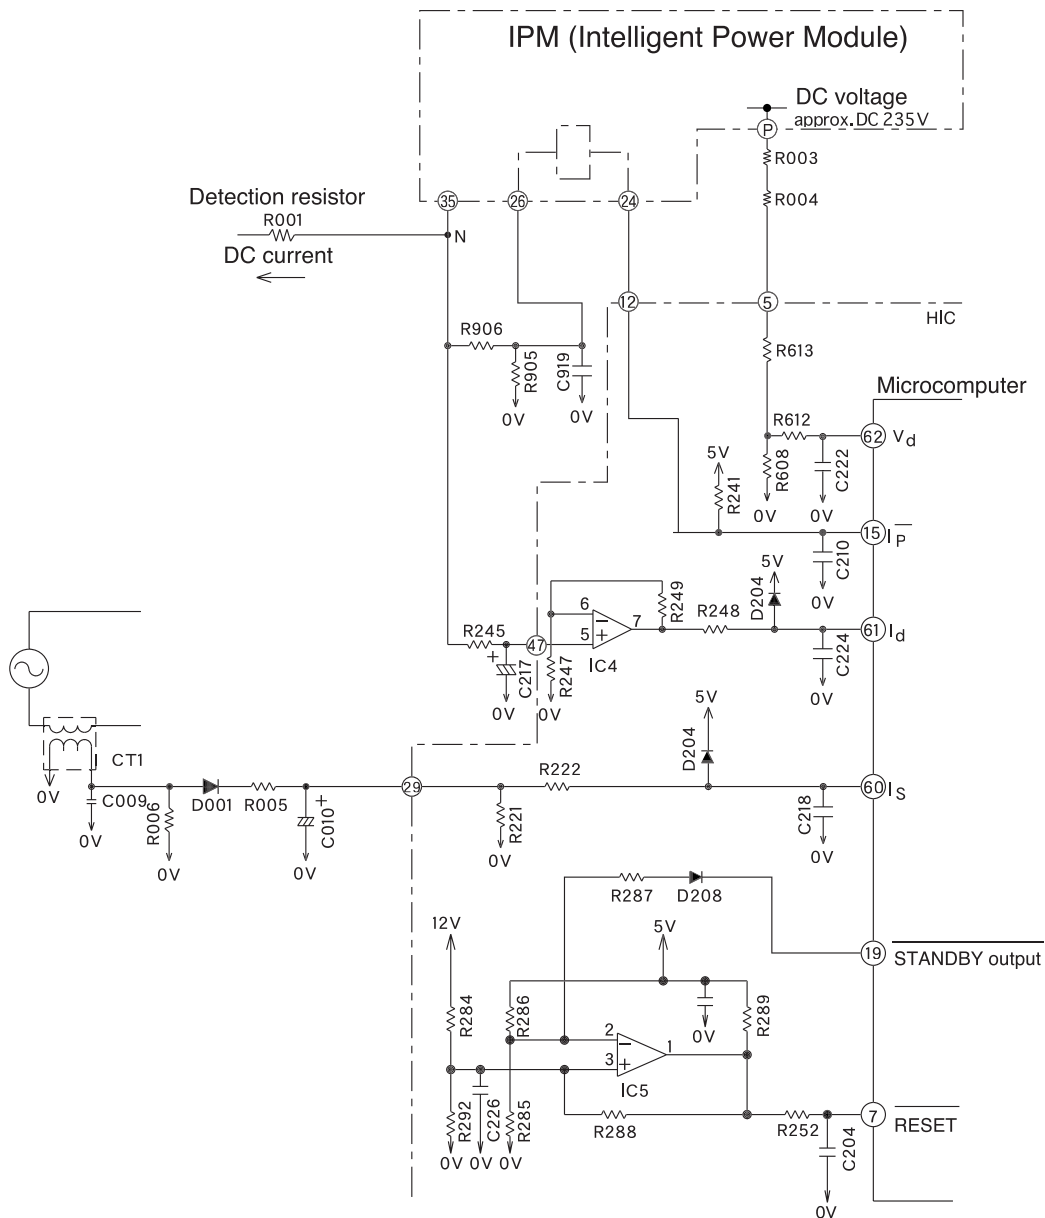
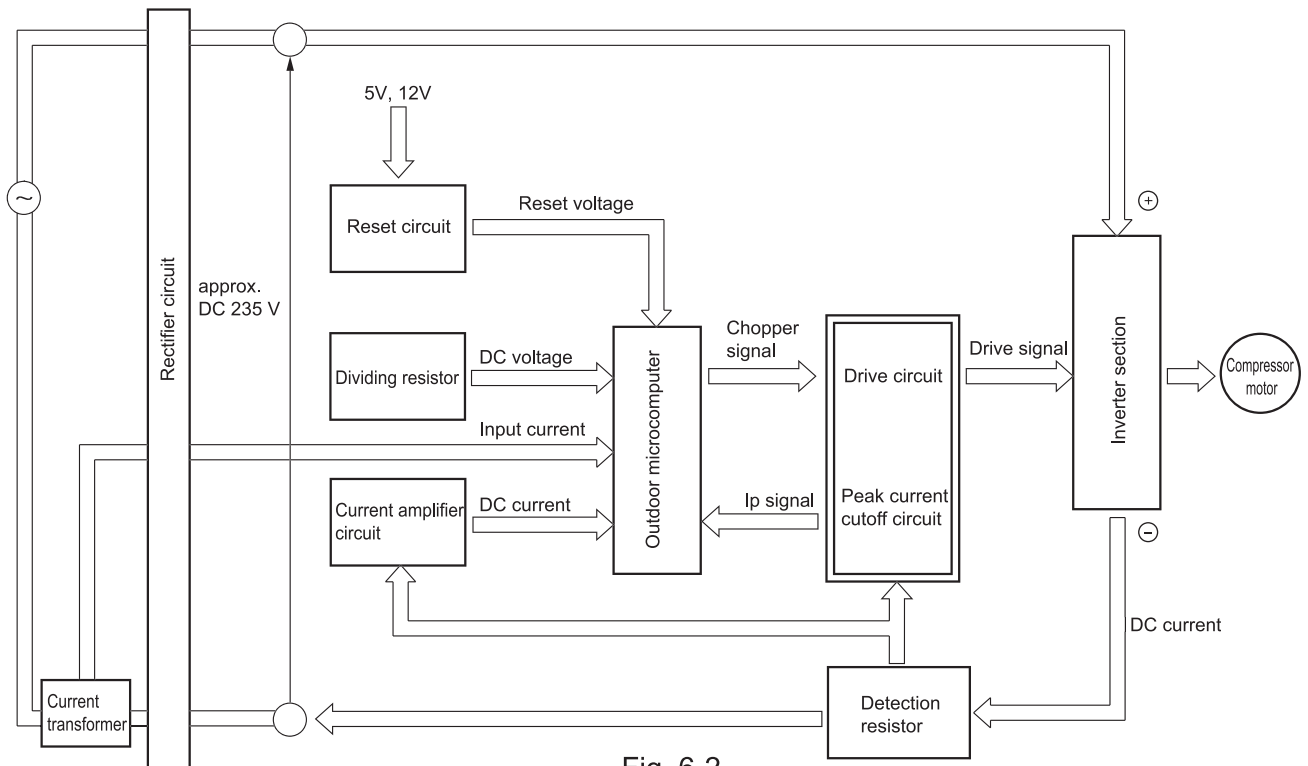

Fig. 6-1 Peripheral circuits of microcomputer
Fig. 6-2
- Fig. 6-1 shows the microcomputer and its peripheral circuits, Table 6-1 shows the basic operation of each circuit block, and Fig. 6-2 shows the system configuration.